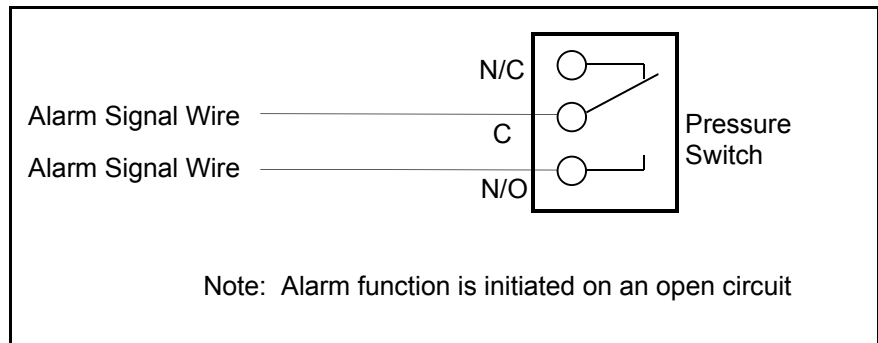

FIGURE 8 Signal Wire Installation
2. Connect one signal wire to the common (C) terminal on the pressure switch. (Figure 8)